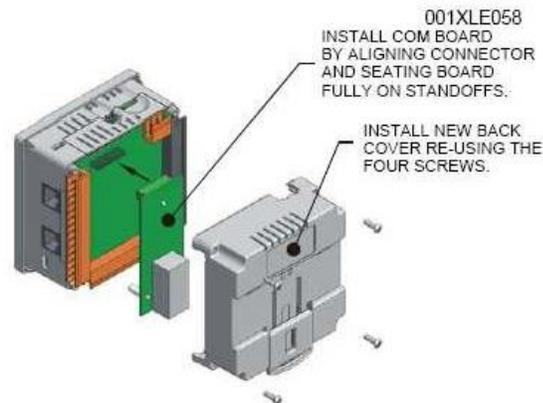

Figure 2 - Installing the COM Board in the XLE
3. Plug the HSQ module onto the 24-pin connector. Ensure that all the pins are properly aligned (Figure 2).
5. Place the screws back into the hole and turn the screw slowly counter clockwise until it clicks into the threads. This prevents the screw from being cross-threaded. Turn the screw clock-wise until the cover is firmly secured. Repeat this process for all four (4) screws. Do not tighten the screws to more than 0.4Nm